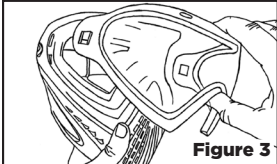

Figure 3
- 4 Grab the lens from the front by the top center and nose bridge. Pull the lens out of the goggle. [See Figure 3]